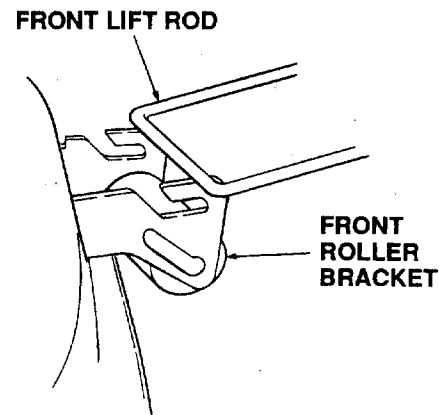

Figure 43
8. Raise the front lift rod upward and slide the mower deck rearward. Lower the front lift rod so it rests on the front roller bracket of the deck, forward of the slots (Refer to Figure 43).